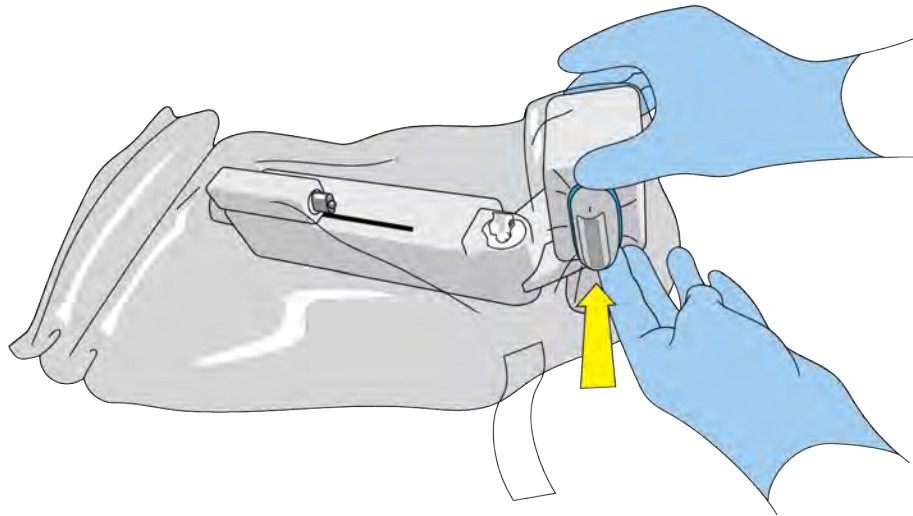

Figure 17. Rubber band placed on end of Ultrasound probe.
12. Place Elastic Band on distal end of Integrated Ultrasound Probe as shown to hold the head of the Integrated Ultrasound Probe tightly against the Sterile Drape (Figure 17).